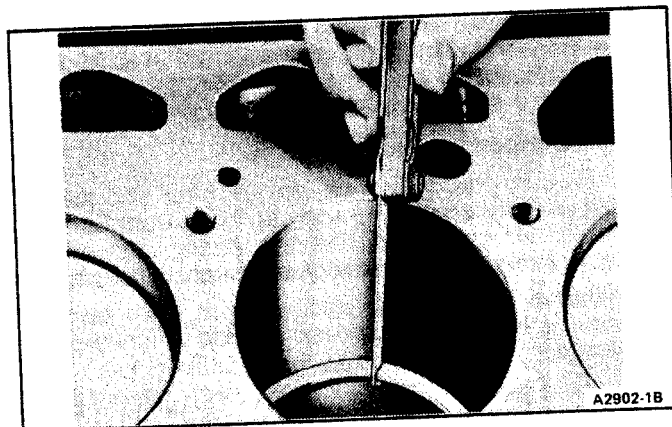

FIG. 81 Checking Piston Ring Gap
5. Measure gap between ends of ring with a feeler gauge Tool D81L-4201-A, or equivalent (Fig. 81). If ring gap is less or greater than specifications, try another ring set listed under Specifications.